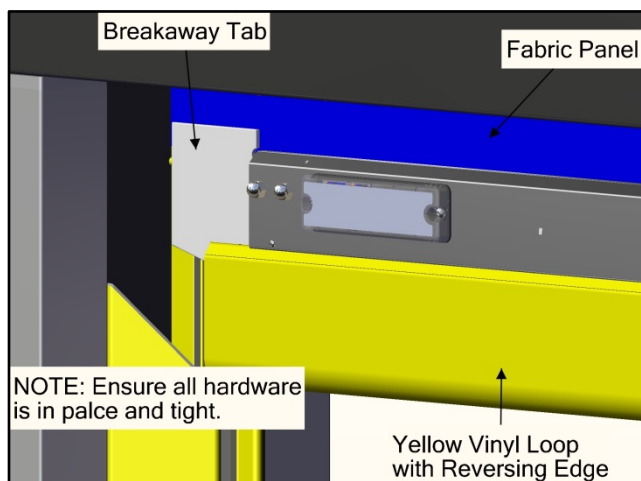

Figure 21
1. Inspect the hardware used to secure the breakaway assembly to the bottom bar. Tighten hardware as required. (See Figure 21.)
2. Inspect the reversing to ensure that it is tightly secured to the bottom bar. Tighten hardware as required. (See Figure 21.)
3. Inspect the yellow vinyl seal along the bottom bar assembly for tears and abrasion. Replace any worn or damaged parts as required. (See Figure 21.)